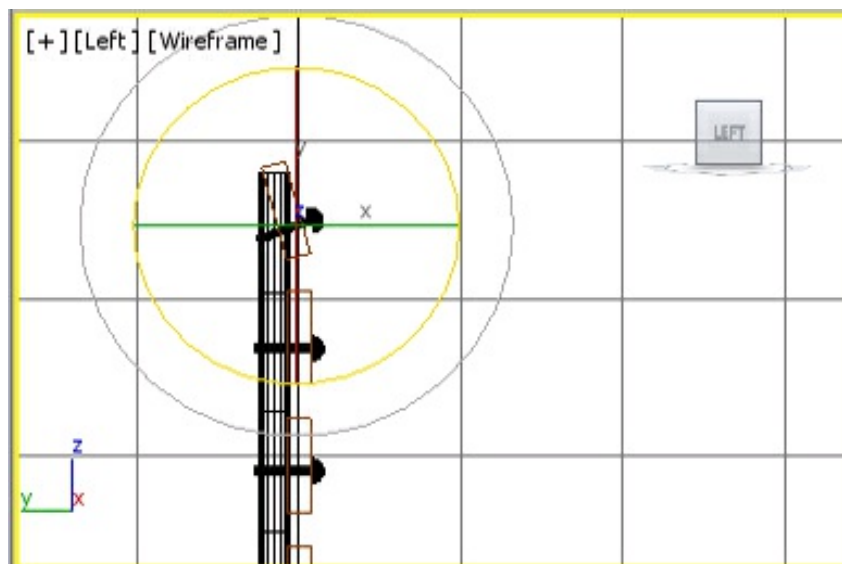

Figure 2-82 Rotating uppermost rivet
5. Select the uppermost rivet and choose the **Select and Rotate** tool. Now, rotate the uppermost rivet by using the outermost ring of the **Select and Rotate** tool in the counterclockwise direction until the value in the X spinner in the coordinate display becomes **-15**, refer to Figure 2-82. Next, align it using the **Select and Move** tool.